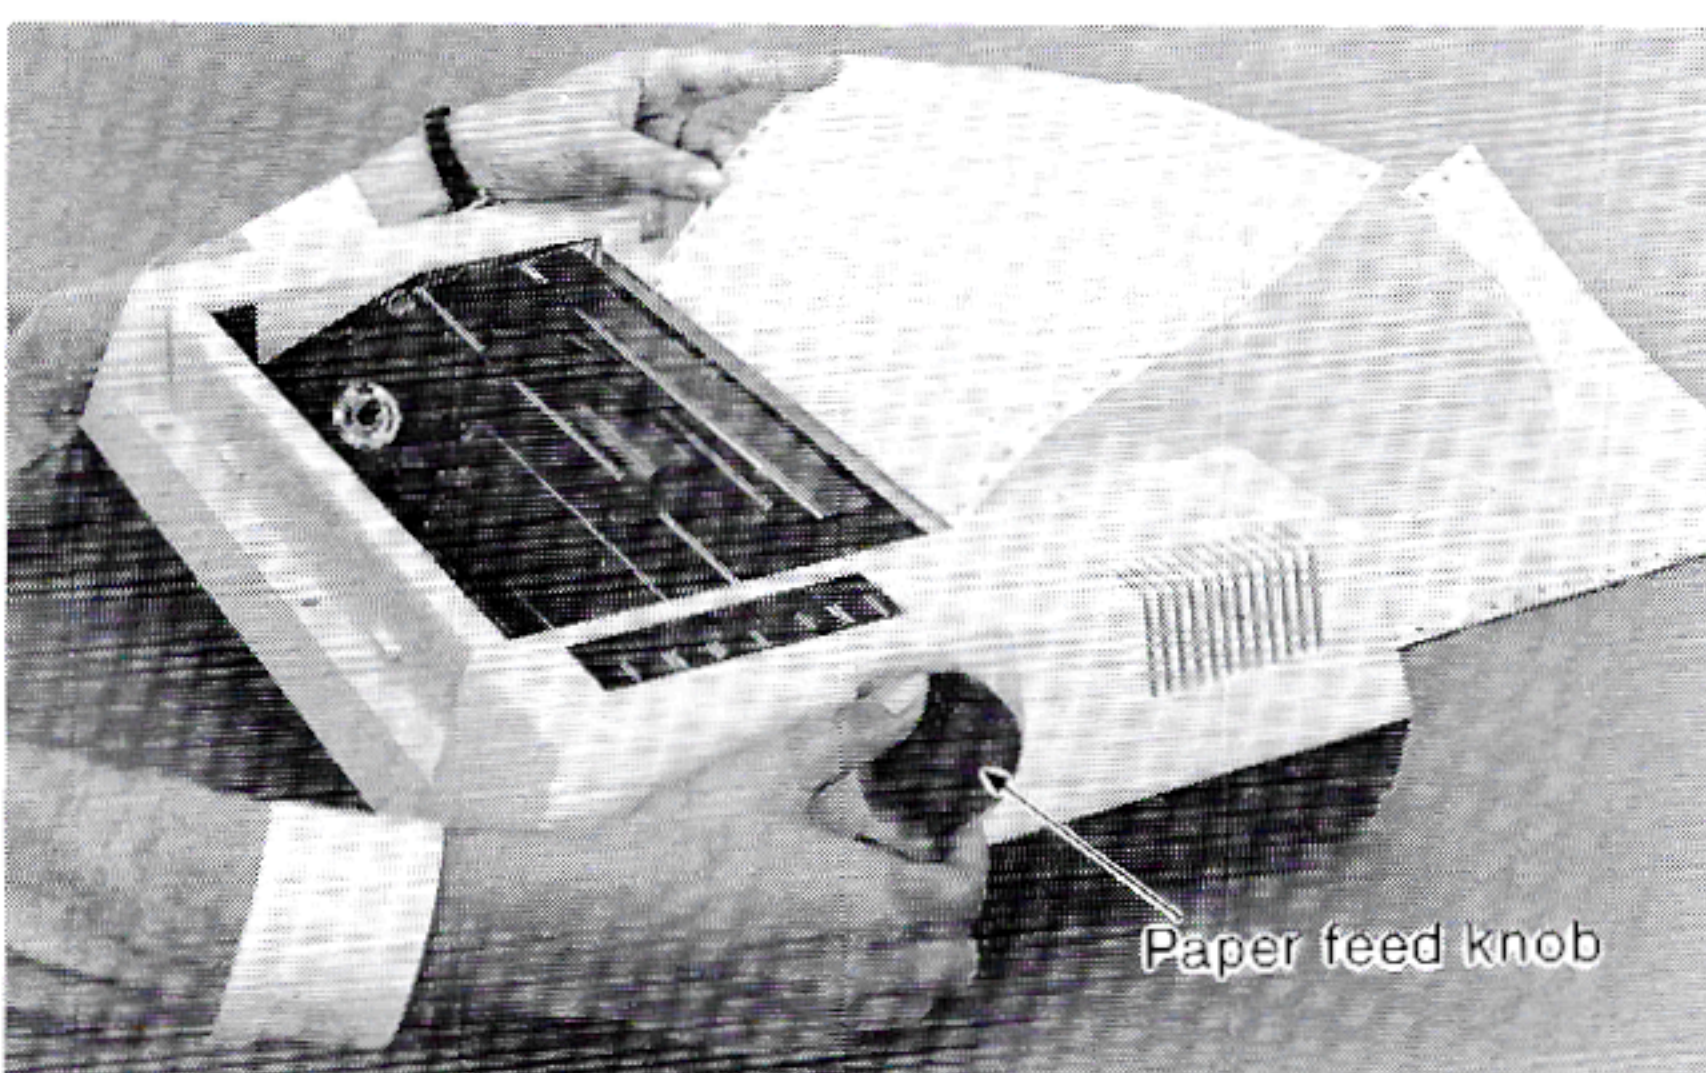

Figure 14
c) Use both hands to insert the paper from the rear and turn the right paper feed knob in a clockwise direction (figure 14). This causes the paper to feed around the printhead and the platen.